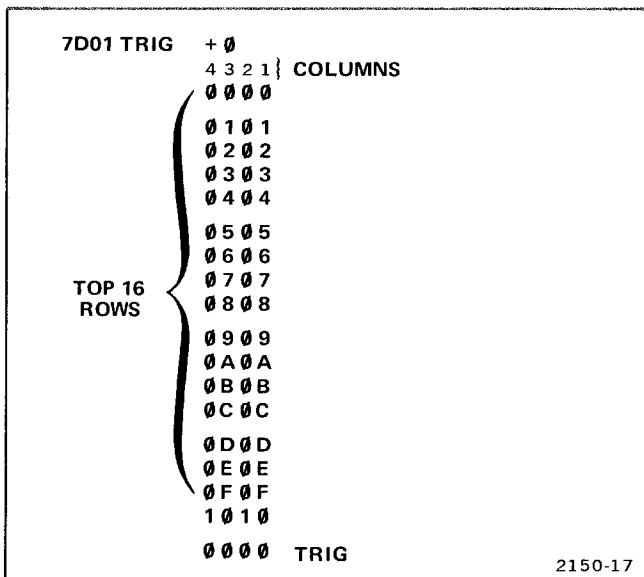

Figure 7-3. Hexadecimal State Table display.
- d. Check that the top 16 rows of columns 1 and 3 display 0 through F (see Figure 7-3).